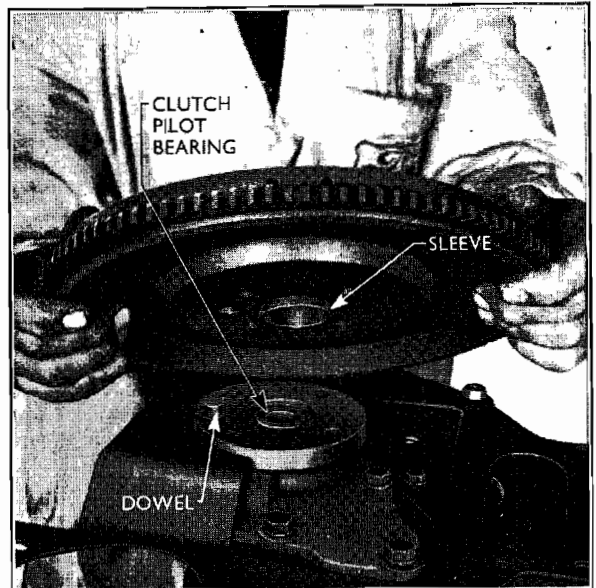

Fig. 19
12. (a) **Refit the flywheel** complete with locating sleeve (see Fig. 19), after first checking that the pilot bearing is in the crankshaft end and that the mounting flange and crankshaft flange are clean and free from burrs. Locate the flywheel squarely upon the dowel in the crankshaft flange, tap it into place, fit the locking plate and retaining bolts tightening them evenly to the correct torque.